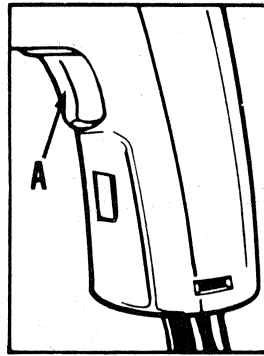

FIG. 1
Your Drill is equipped with a variable speed switch that lets you run the tool at the proper speed for each job. To turn the tool ON, depress the trigger switch (A) shown in **Figure 1**. The farther you depress the trigger, the faster the drill will run. To turn the tool OFF, release the trigger.